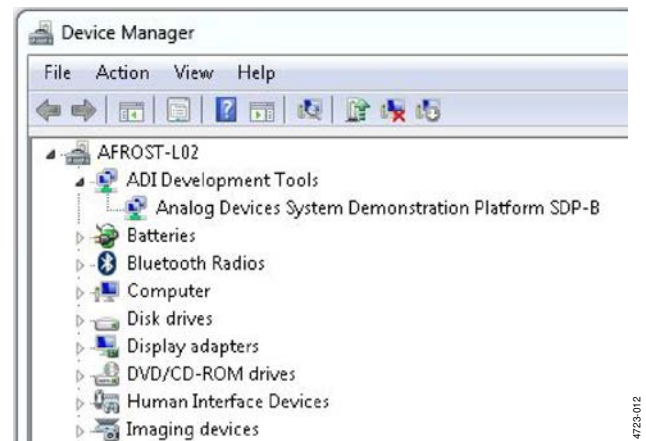

Figure 13. **Device Manager** Window—Checking the EVAL-SDP-CB1Z Is Connected to the PC Correctly
3. Under **ADI Development Tools**, **Analog Devices System Demonstration Platform SDP-B** appears (see Figure 13), indicating the EVAL-SDP-CB1Z driver software is installed and the board is connected to the PC correctly.